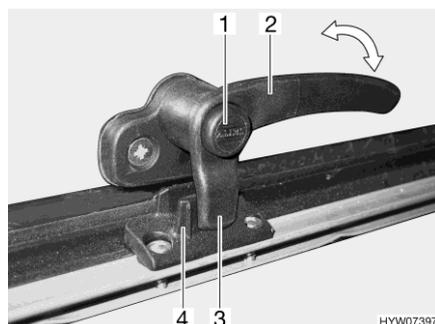
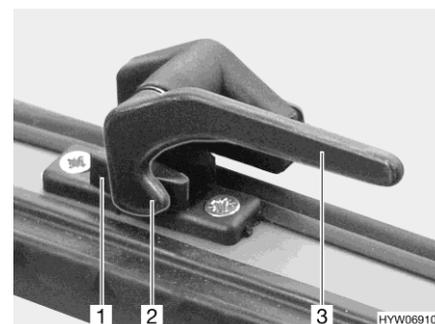

Fig. 121 Catch lever with safety knob in "closed" position
Fig. 122 Catch lever in "closed" position
- Press and hold the security button (Fig. 121,1), if present.
- Turn all catch levers (Fig. 121,2 or Fig. 122,3) a quarter turn towards the centre of the skylight.
- Turn all catch levers (Fig. 121,2 or Fig. 122,3) a quarter turn towards the frame. The locking catch (Fig. 121,3 or Fig. 122,2) is located on the inside of the skylight lock (Fig. 121,4 or Fig. 122,1).
- "Firmly closed" (Fig. 121 and Fig. 122)